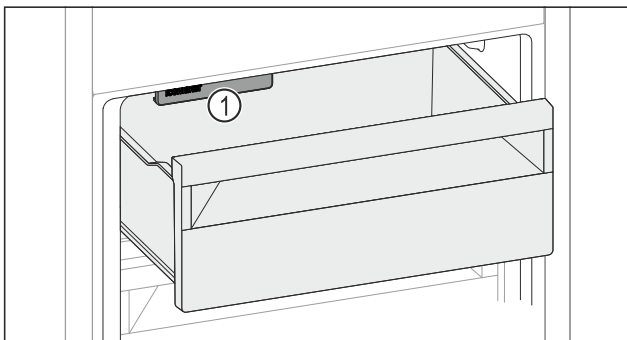

Fig. 140
- ▶ Watch out for the IceMaker Fig. 140 (1).